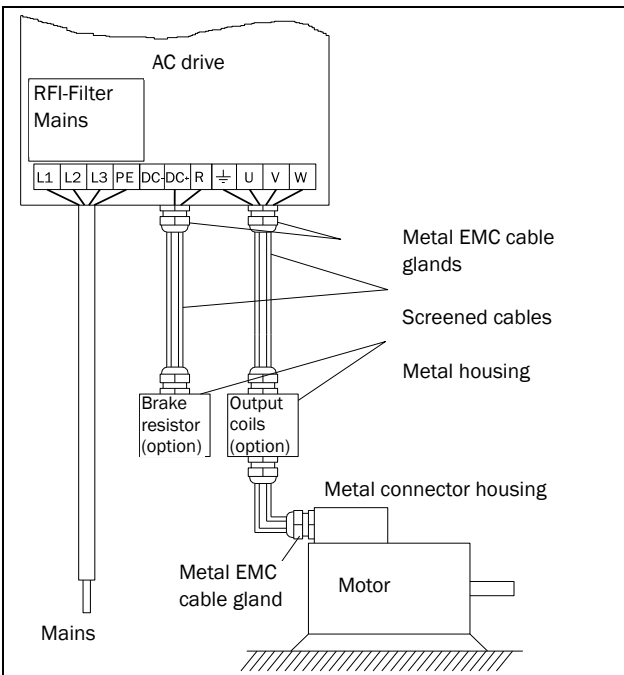

Fig. 35 Connection of mains and motor cables
1. Connect the mains cables as in Fig. 35. The AC drive has, as standard, a built-in RFI mains filter that complies with category C3 which suits the Second Environment standard.
2. Connect the motor cables as in Fig. 35. To comply with the EMC Directive you have to use screened cables and the motor cable screen has to be connected on both sides: to the housing of the motor and the housing of the AC drive.